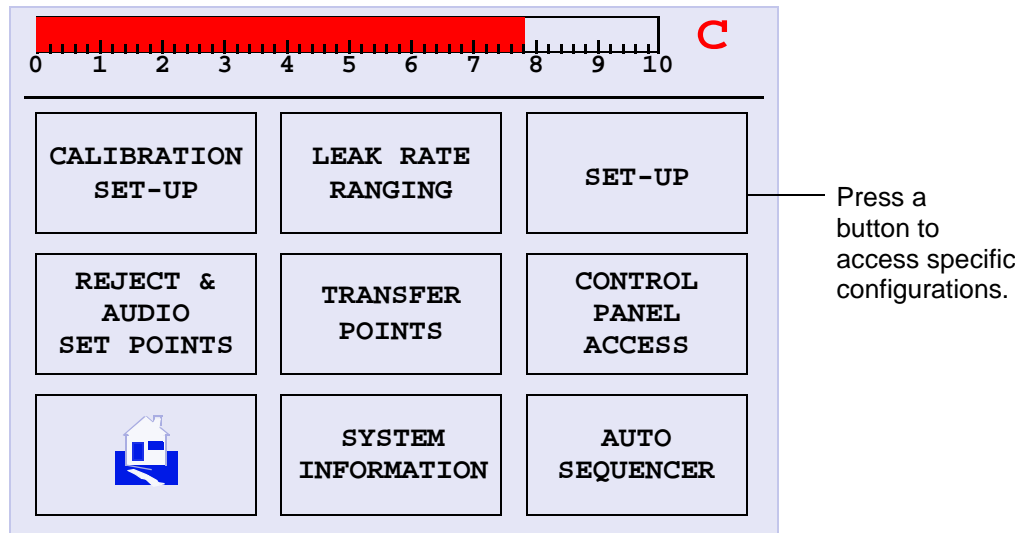

Figure 2-6 Menu Screen
- Press **Menus** on the Home screen. The Menu screen appears (Figure 2-6). Use the arrow to navigate to the previous screen.